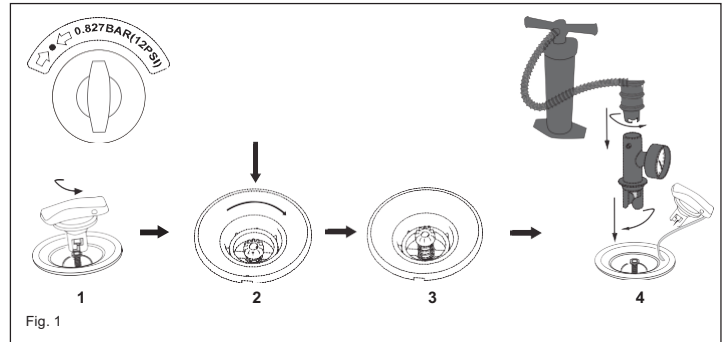

Fig. 1
2. Inflate the board by unscrewing the cap of the air valve (Fig.1 Pos.1). Ensure that the inner spring valve is not depressed. If it is depressed (Fig.1 Pos. 2), press the spring valve and turn counter clockwise so the inner spring valve is in the correct position (Fig.1 Pos. 3). Attached the pressure gauge onto the hose and the hose to the inflate position on the high-pressure hand pump. Inflate the board to 0.827bar (12psi). After inflation, screw the cap of air valve (Fig.1 Pos. 4)